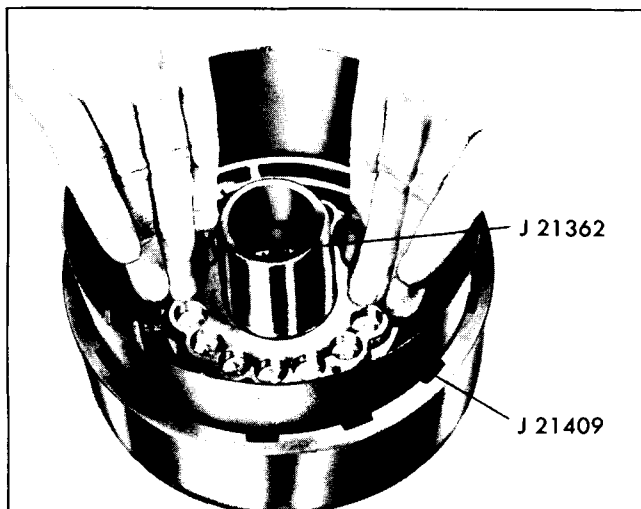

Fig. 7E-133 Installing Direct Clutch Piston
(plate with "U" notch) clutch plates, starting with the waved steel plate and alternating composition and flat steel clutch plates (Fig. 7E-126).
- b. (Model PD Only) Lubricate with transmission fluid and install four (4) composition, three (3) flat steel and one (1) waved steel clutch plates, starting with the waved steel plate and alternating composition and flat steel clutch plates (Fig. 7E-126).
- c. (Models PG, PQ and PR) Lubricate with transmission fluid and install five (5) composition and five (5) flat steel clutch plates, starting with a flat steel and alternating composition and flat steel clutch plates.
- d. (Model PH only) Lubricate with transmission fluid and install six (6) composition and six (6) flat steel clutch plates, starting with a flat steel and alternating composition and flat steel clutch plates.